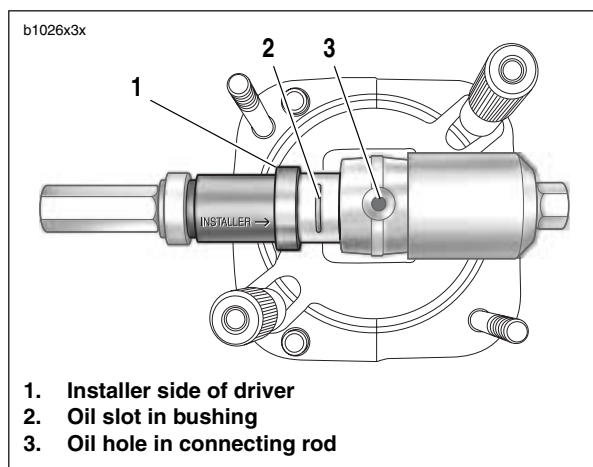

Figure 3-99. Installing New Wrist Pin Bushing
6. See Figure 3-99. Place **new** bushing between connecting rod and driver.